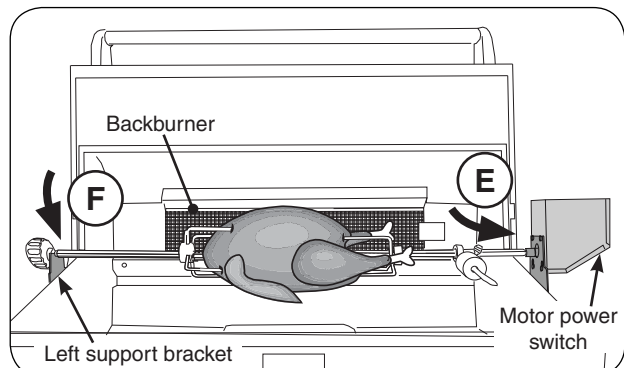

Fig. 26-4 Attach Rotisserie rod to motor
10. Insert the pointed-end of the rod into the motor drive socket (see Fig. 26-4, E). Then rest rod groove (next to the knob) into the left support bracket (see Fig. 26-4, F).